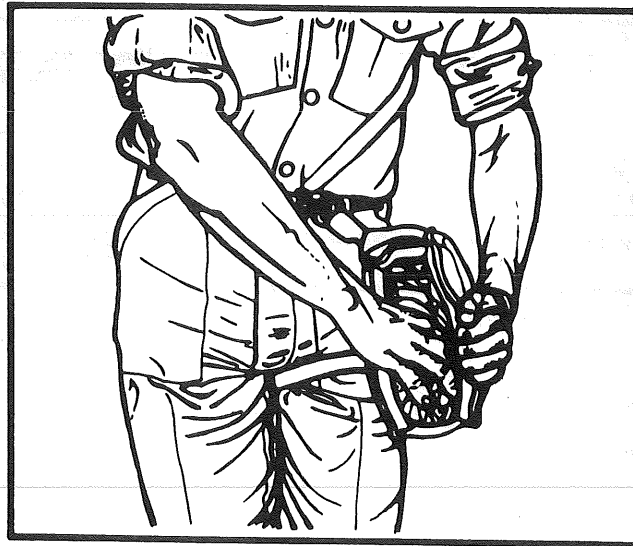

Figure 5
5. Insert mask with folded hood into carrier with eyelens facing up and out (fig 5).